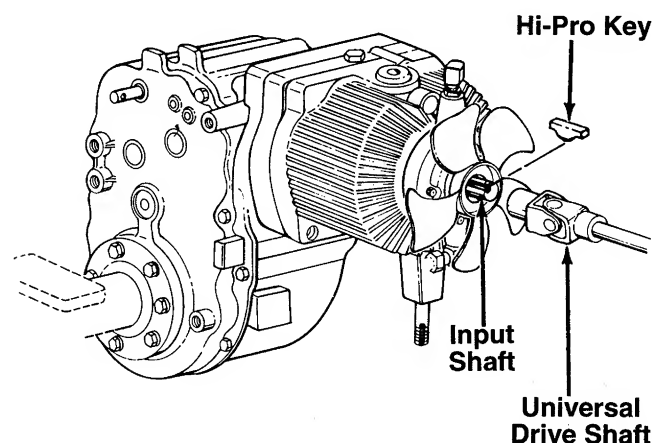

FIGURE 31.
2. Slide the drive shaft assembly forward as far as it will go. The rear universal joint can be removed from the input shaft of the hydrostatic transmission. See figure 31.